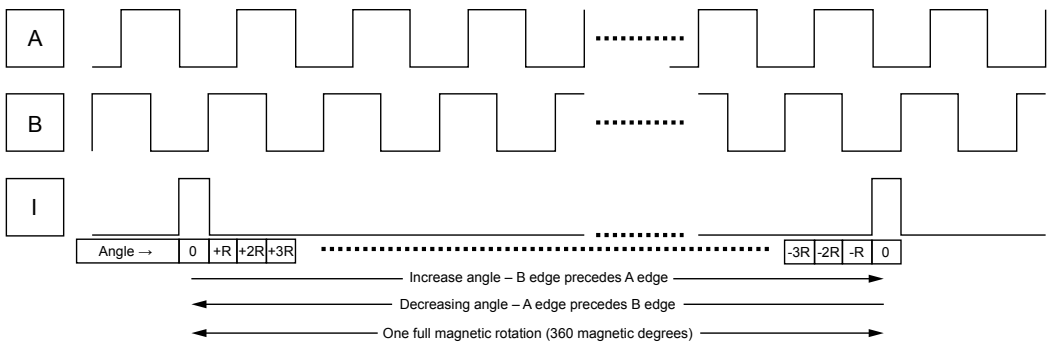

Figure 8: One Full Magnetic Revolution
The A33023 offers an incremental output mode in the form of quadrature A/B and Index outputs to emulate an optical or mechanical encoder. The A and B signals toggle with a 50% duty cycle (relative to angular distance, not necessarily time) at a frequency of  $2^N$  cycles per magnetic revolution, giving a cycle resolution of  $(360 / 2^N)$  degrees per cycle. B is offset from A by  $\frac{1}{4}$  of the cycle period. The I signal is an index pulse that occurs once per revolution to mark the zero (0) angle position. One revolution is shown in Figure 8.